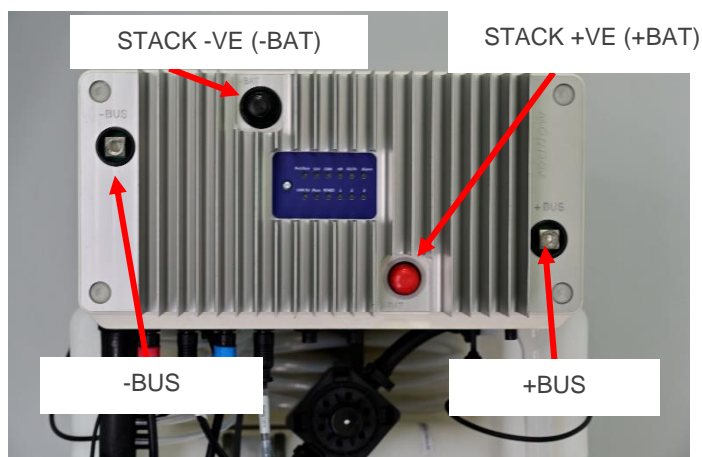
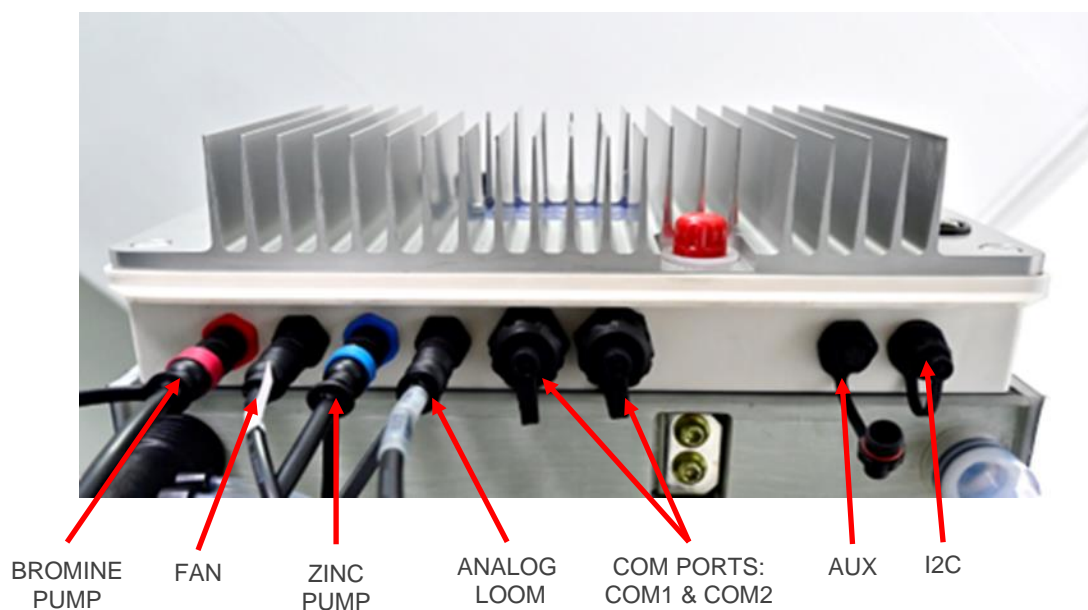

Figure 4: Location of ZBM terminals
Figure 5: BCM connections (viewed from underneath)
- Even when disconnected, a ZBM battery can remain charged and have voltage on any battery terminals (refer to Figure 4). Always check voltage before proceeding.
A single ZBM can have between 0V and 58V DC on any battery terminals during operation. See Figure 5 to identify the battery terminals. While the ZBM should be fully discharged (terminal voltage at 0V) during transportation or storage, care must be taken in case the terminals are live.
The Battery Control Module (BCM) provides the in-built intelligence to protect the battery and allows the user to manage the ZBM's operation. Communication with the BCM is most effectively done using the Battery Management System (BMS, see Section 4.11). The BCM is mounted on to the stack terminals (+BAT, -BAT), which are fitted with terminal caps. The BCM provides connection points for the electrical bus (+BUS, -BUS), ZBM components, and external systems as shown in Figure 4 and Figure 5.